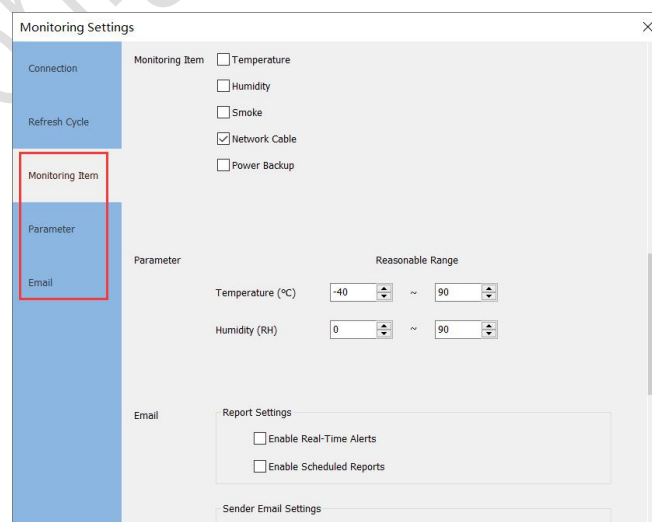

Fig 10.2 Set monitoring item
Step 2: Click **Settings** to open the **Monitoring Settings** dialog box. Configure the settings for **Monitoring Item**, **Parameter Range** and **Email Settings**, as shown in Fig 10.2.